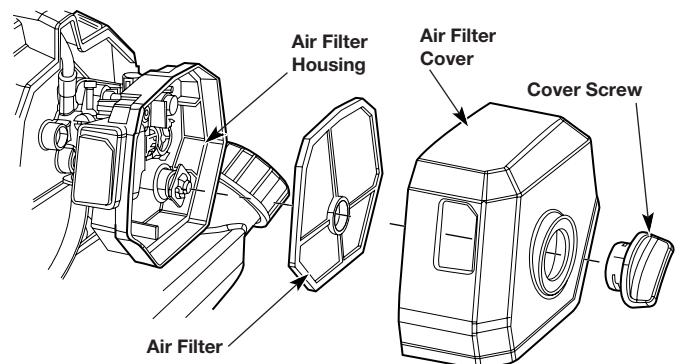

Fig. 23
1. Unscrew the cover screw completely. Remove the air filter cover from the air filter housing (Fig. 23).
4. Reinstall the air filter in the air filter housing (Fig. 23).
5. Insert the tab on the air filter cover into the hole in the air filter housing. Push the air filter cover back onto the air filter housing. Insert the cover screw into the air filter cover. Tighten the cover screw to secure the air filter cover (Fig. 23).